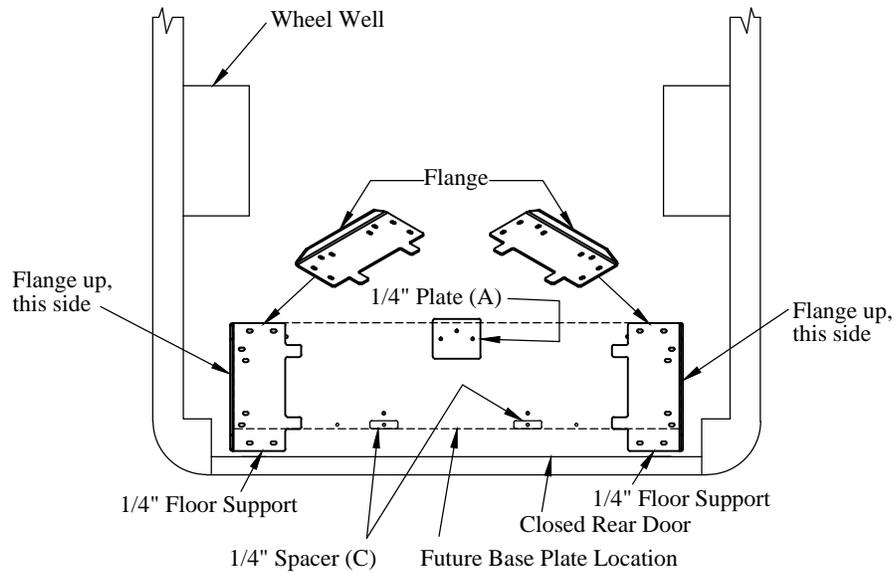

Figure 8: Floor support locations (top view).
1. **Position** the 1/4" floor supports in the van (Figure 8).
2. **Position** a 1/4" spacer at each "C" location (Figure 8). These spacers are being added to the shims at this location.
3. **Position** the 1/4" plate at the "A" location (Figure 8). This plate is being added to the shims at this location.